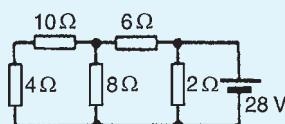

Figure 13.51
4. In the network shown in Fig. 13.51, the battery has negligible internal resistance. Find, using Thévenin's theorem, the current flowing in the  $4\Omega$  resistor.